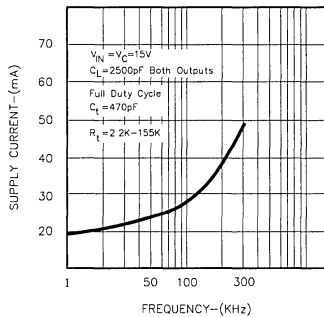

FIGURE 14. SUPPLY CURRENT VS. OUTPUT FREQUENCY
2. If more dead time is required, select a larger value of  $R_D$  using Figure 14 as a guide. At 40 KHZ dead time increases by 300 ns/ $\Omega$ .